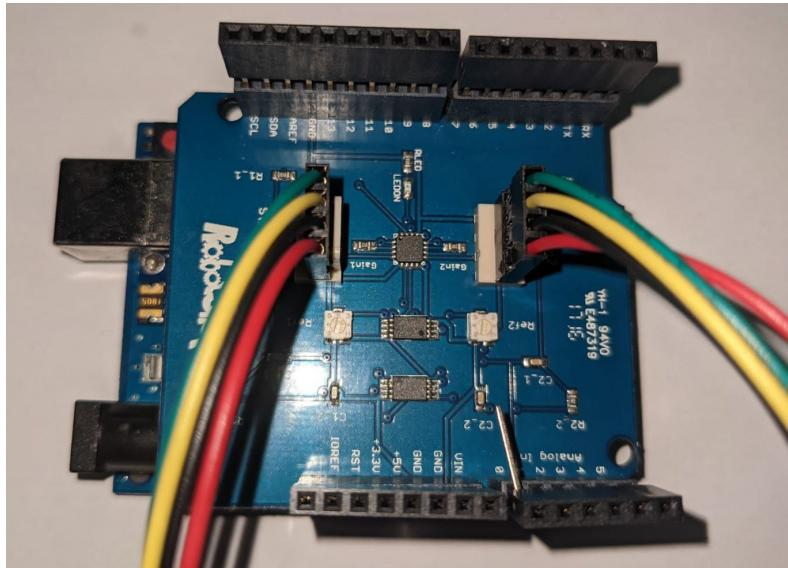

Figure 15 – Placement of stackable headers.
Step 2: On the recalibrate screen (Figure 15), use the up/down buttons until the screen reads “YES” and press the “ENTER” button (left most on LCD screen).